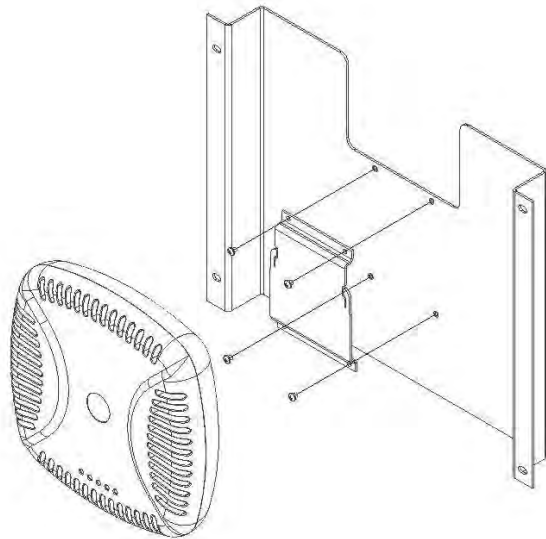

Figure 2
Step 2 – Install the mounting plate onto the mounting bracket using the (4) # 4-40 screws. The tabs of the mounting plate should be facing up toward the cutout on the bracket. Slide the access point onto the mounting plate, locking the tabs to the underside of the access point (Figure 2).